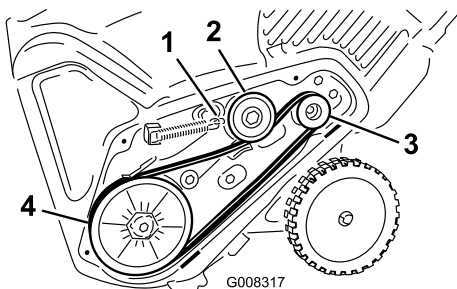

**Figure 26**
1. Remove the drive-belt cover by removing the 3 bolts as shown in Figure 26.
2. Unhook the brake spring from the idler arm to release the belt tension (Figure 26).
3. Remove the screw and curved washer that holds the rotor pulley (Figure 26).
4. Remove the rotor pulley and the drive belt (Figure 26).
**Note:** Route the new drive belt first around the engine pulley, then the idler pulley, and finally around the loose rotor pulley positioned just above the rotor shaft (Figure 26).
6. Install the rotor pulley onto the rotor shaft (Figure 26).
7. Install the curved washer and the rotor-pulley bolt and tighten them securely (Figure 26).